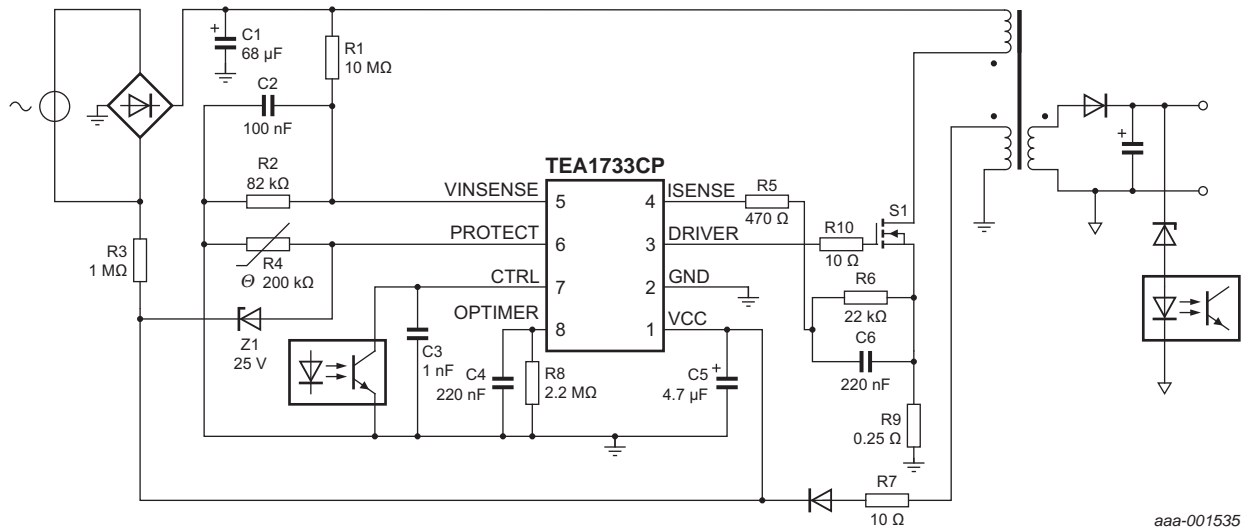

Fig 10. Typical application
A power supply with the TEA1733CP is a flyback converter operating in Continuous conduction mode (See Figure 10).
In the example shown in Figure 10, the PROTECT pin is used for OVP and OTP. Diode Z1 sets the OVP level to $V_{CC} = 25.8\text{ V}$. Negative Temperature Coefficient (NTC) resistor R4 sets the OTP level. The VINSENSE pin is used for mains voltage detection and resistors R1 and R2 set the start voltage to about 80 V (AC). Capacitor C4 sets the overpower protection time at 60 ms.